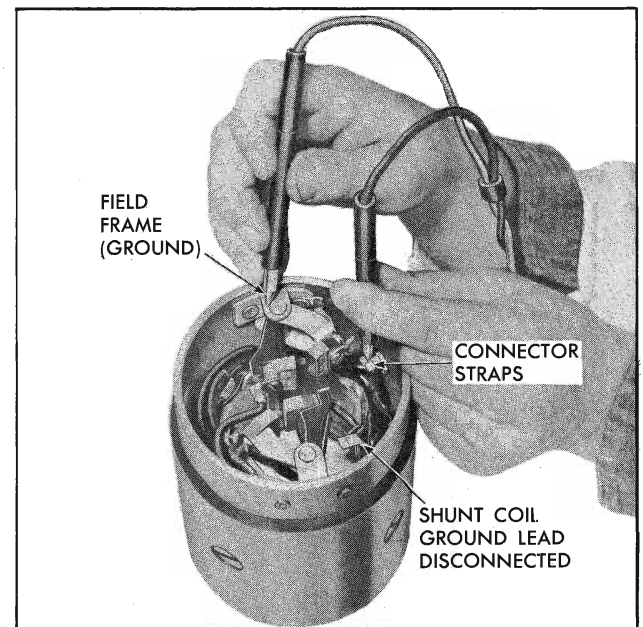

Fig. 11-42 Testing Field Coils for Ground
d. Using a 110-volt test lamp, place one lead on the connector strap and the other on the field frame (Fig. 11-42). Disconnect the shunt coil or coils ground before this check is made. If the lamp lights, the field coils are grounded and the defective coils will require repair or replacement.